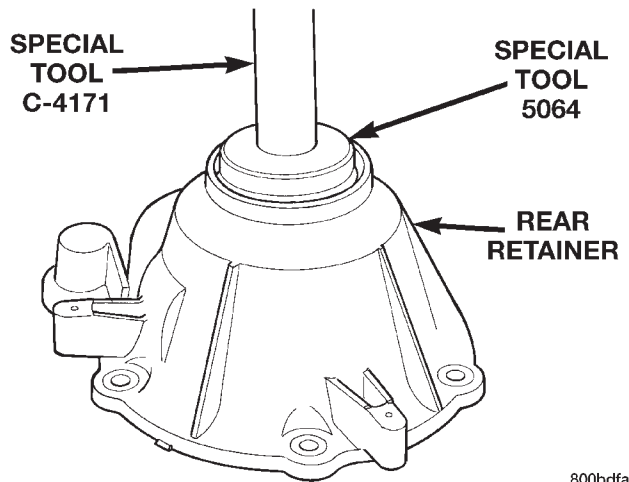

Fig. 55 Installing Rear Bearing In Retainer
(19) Remove rear retainer bearing with Installer 8128 and Handle C-4171.
(20) Install rear bearing in retainer with Handle C-4171 and Installer 5064 (Fig. 55).